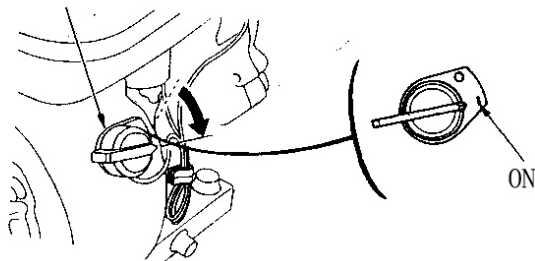

Fig. 8
- (3) Set engine switch to "ON". See figure 8.